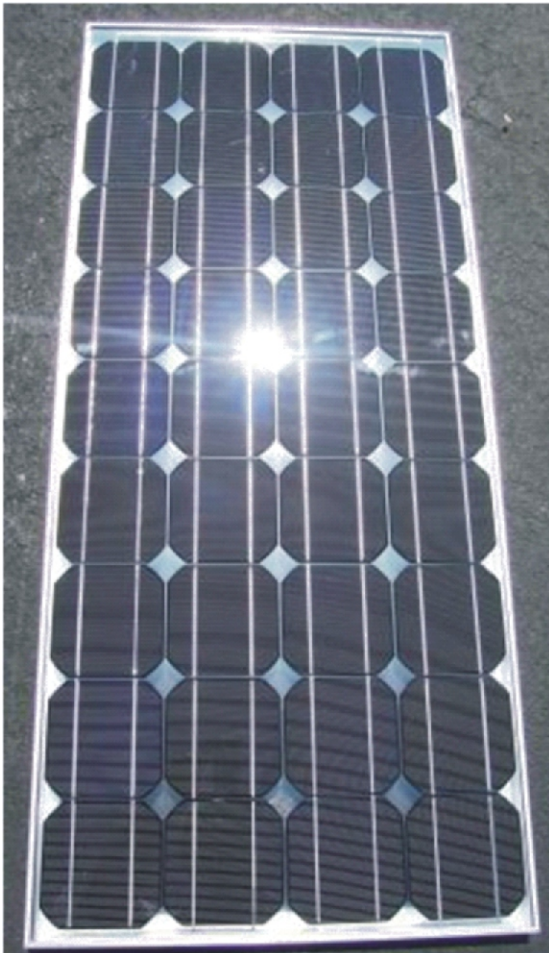

Fig. 5. Complete interconnected solar cells
placed on the collector grid (the substrate). Since the collector grid is metalized with silver, a silver-containing solder is used to make the interconnect. Soldering is frequently performed via radiant infrared (IR) energy. In some cases, automated soldering irons are used. After the PV cells have been strung together through reflow, they are placed on a substrate, typically glass. Six to ten rows of cells are then "bussed" together (via soldering) to create the collector grid. This process step is typically performed using a soldering iron. Once all the PV cell stringing and bussing is complete (Figure 5), another layer of glass is placed on top of the cells. An anti-reflective coating is then applied to the top glass surface. Next, the module is sealed and tested for efficiency. After the module passes inspection, it moves to the framing stage, then to a sun simulator to determine if the module is generating sufficient power.